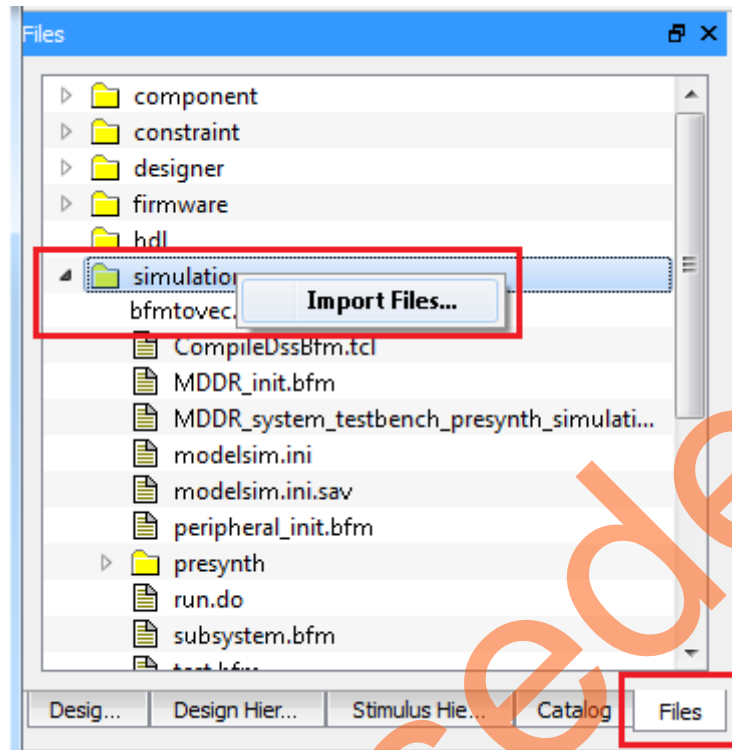

Figure 32. Importing bfm Source File
- Go to Files tab and right-click on the simulation Folder as shown in Figure 32.